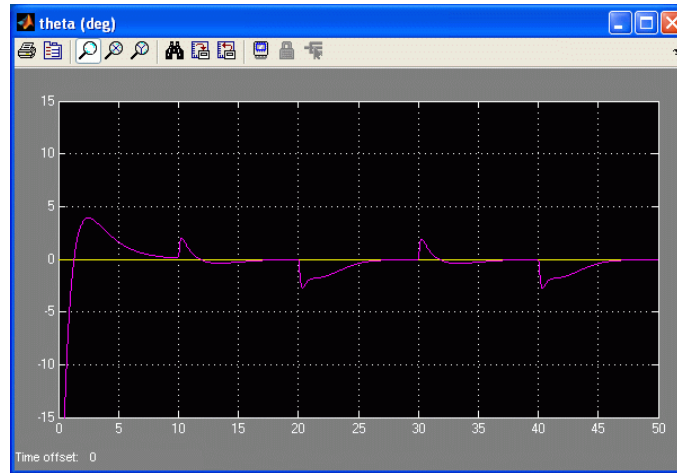
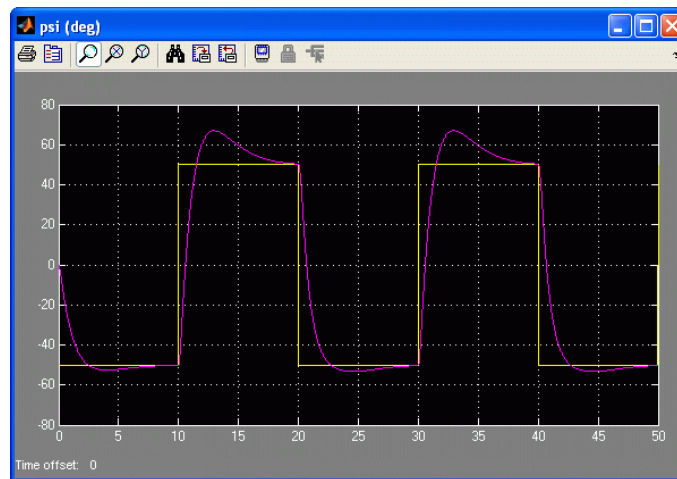
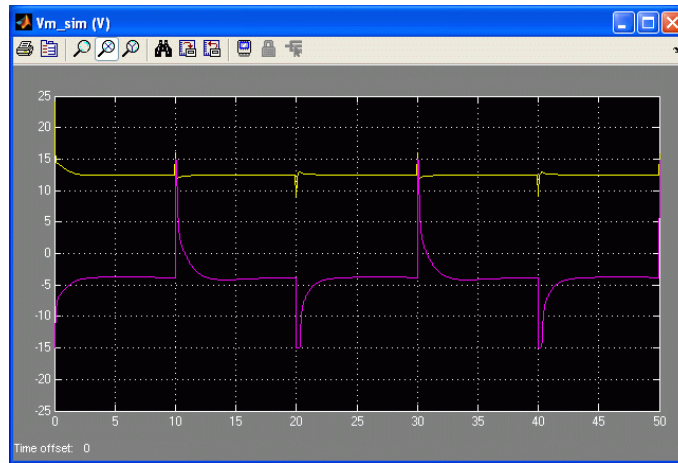

Figure 5.12: Simulated pitch response under a desired yaw reference step using LQR+I
Figure 5.13: Simulated yaw response under a desired yaw step using LQR+I
Figure 5.14: Simulated front and back motor voltage under yaw reference step using LQR+I
14. Run the simulation and the responses shown in Figure 5.12, Figure 5.13, and Figure 5.14 should be obtained. The yaw voltage saturates the back amplifier at -15 V